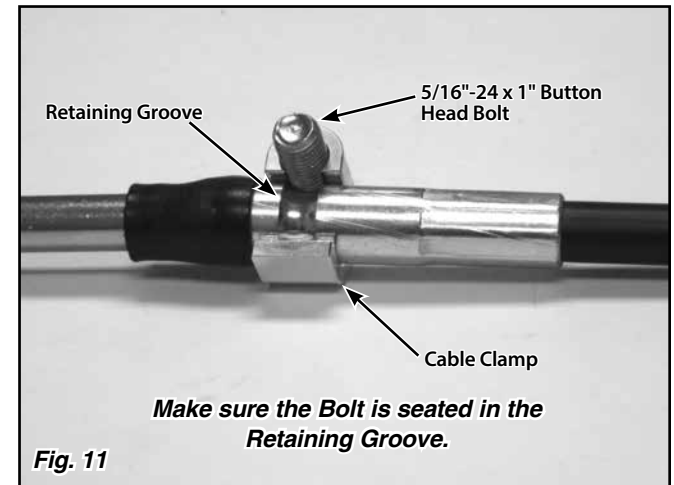

Fig. 11
Step 15: Insert the 5/16"-24 x 1" button head bolt into the upper cable clamp, and position the upper cable clamp on the cable, making sure that the bolt is seated in the retaining groove. **Fig. 11**